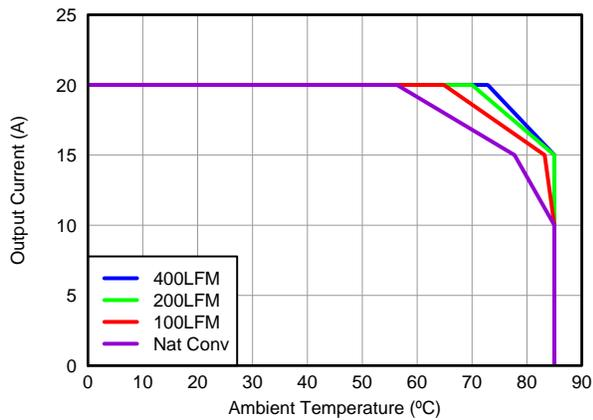
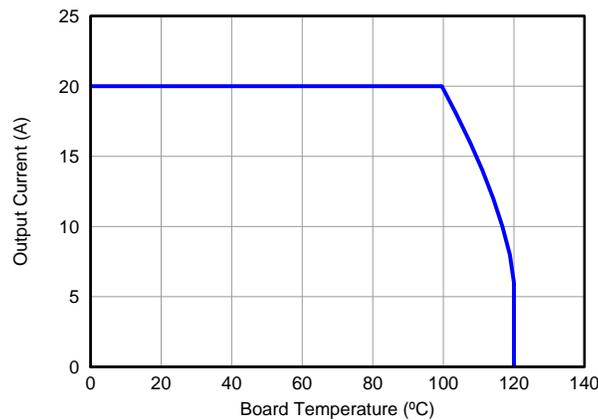

Figure 3. Safe Operating Area – PCB Vertical Mount(1)
Figure 5. Typical Safe Operating Area(1)
The SOA curves in the CSD87330Q3D data sheet provides guidance on the temperature boundaries within an operating system by incorporating the thermal resistance and system power loss. Figure 3 to Figure 5 outline the temperature and airflow conditions required for a given load current. The area under the curve dictates the safe operating area. All the curves are based on measurements made on a PCB design with dimensions of 4" (W) × 3.5" (L) × 0.062" (T) and 6 copper layers of 1 oz. copper thickness.